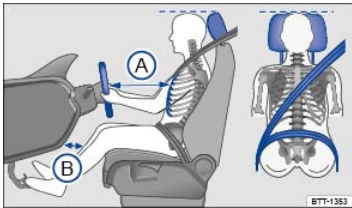

Fig. 23 Proper safety belt positioning and head restraint adjustment. The driver should never sit closer than 10 inches (25 cm) from the steering wheel.
- Adjust head restraint so that the upper edge of the head restraint is at least at eye level or higher. Position the back of your head as close as possible to the head restraint and ⇒ Fig. 23.